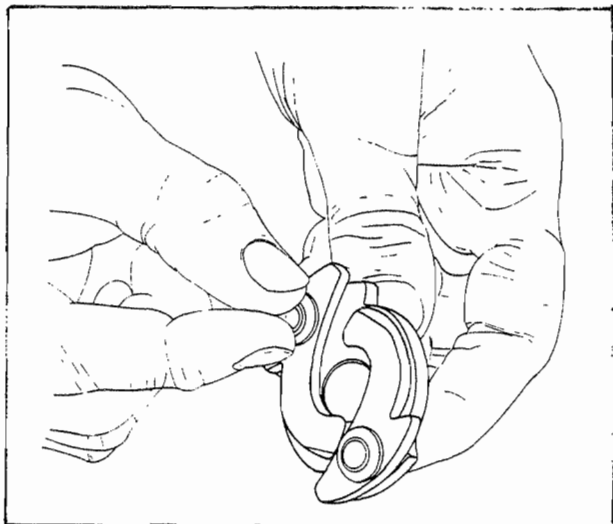

Figure 709. Inspection of Flyweight Securing Washers
- (2) Visually inspect flyweight securing washers and flyweights, particularly in area around axle hole, for cracks. Grip washer with fingers as shown in Figure 709, and exert a turning force in each direction attempting to move the washer. If washer moves or any cracks are found, reject and replace the cam assembly.